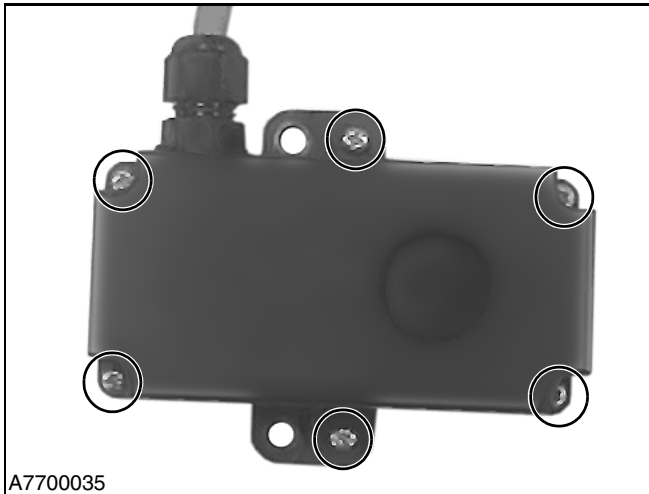

Figure 38
1. Remove the six screws and the cover from the encoder. (See Figure 38.)